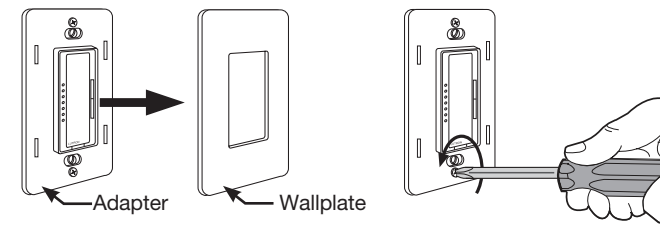

Figure 1
2. Remove Wallplate and Adapter. See Figure 1.
6. Install Adapter and Wallplate. See Figure 1.